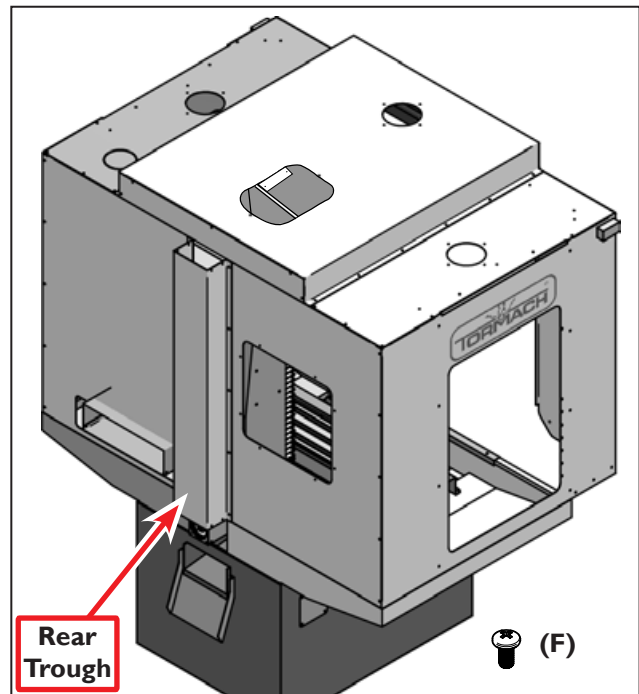

Figure I4
33. Place the Rear Trough (E.26) onto the center back see **Figure I4**). Loosely fasten with (F) screws along side of panel.